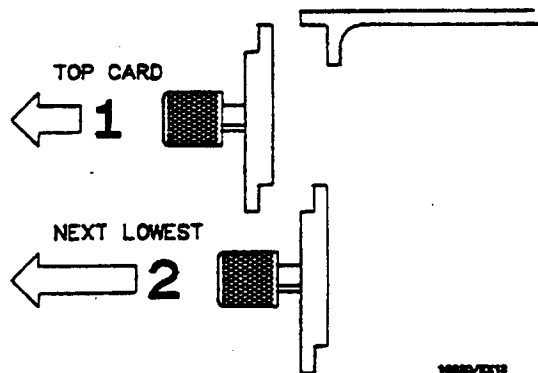

Figure 6-12. Endplate Overlap
- c. Starting from the top, begin pulling card(s) and filler panel(s) out half way. See figure 6-12.